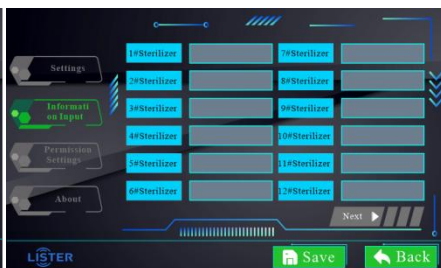

Figure 6: Sterilizer Information Input
- d. Click the " Information Input" button to enter the "**Sterilizer Information Input**" interface shown in **Figure 6**, enter the information of the sterilization equipment in the venue, click " Next" to enter the "**User Information Input**" interface shown in **Figure 7**, enter the username or user number, and click " Save" to permanently save the relevant information. Click " Back" to return to the main interface.
- e. When in the "**Traceability Information Input**" interface as shown in **Figure 15**, if sterilizer information needs to be entered, simply select the "**Sterilizer Selection**" interface shown in **Figure 16**. The sterilizer number and related information are pre-entered and saved in the "**Information Entry**" interface shown in **Figure 6**.